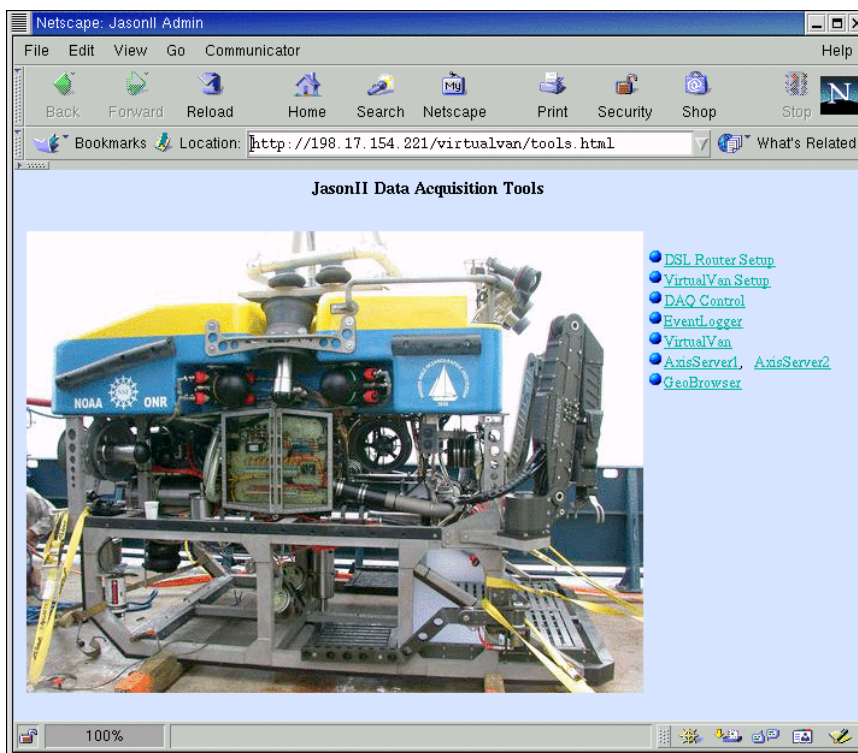

Figure 4: *Jason II* Data Acquisition Tools web page
- 2) Click on the tool-chest from the top menu bar to bring-up the *Jason II* Data Acquisition Tools administrative webpage. If there is no top menu bar, enter the URL <http://198.17.154.221/virtualvan/tools.html> in the Netscape browser. This webpage contains the links needed to setup for a new cruise. As shown in figure 4, this web page contains links for setting up the TCP/IP router to communicate between the control van and computers on the shipboard network; the virtual van setup page for configuration a new cruise; the DAQ Control for starting, stopping, and monitoring the data acquisition system; the Event Logger, an application for scientists to enter description of real-time events; a link to the Virtual Van main website; and miscellaneous links to access the video servers and the GeoBrowser system directly.